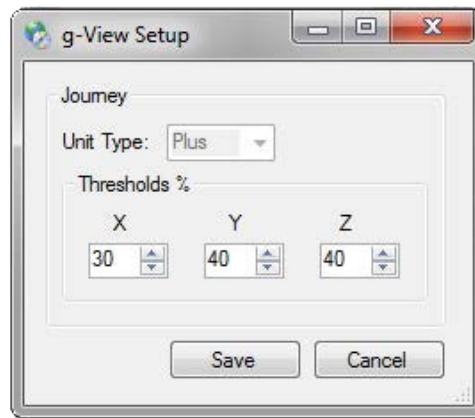

Figure 4
1. Use the individual up/down counters to set the required Threshold for each axis (Figure 4 & 5).